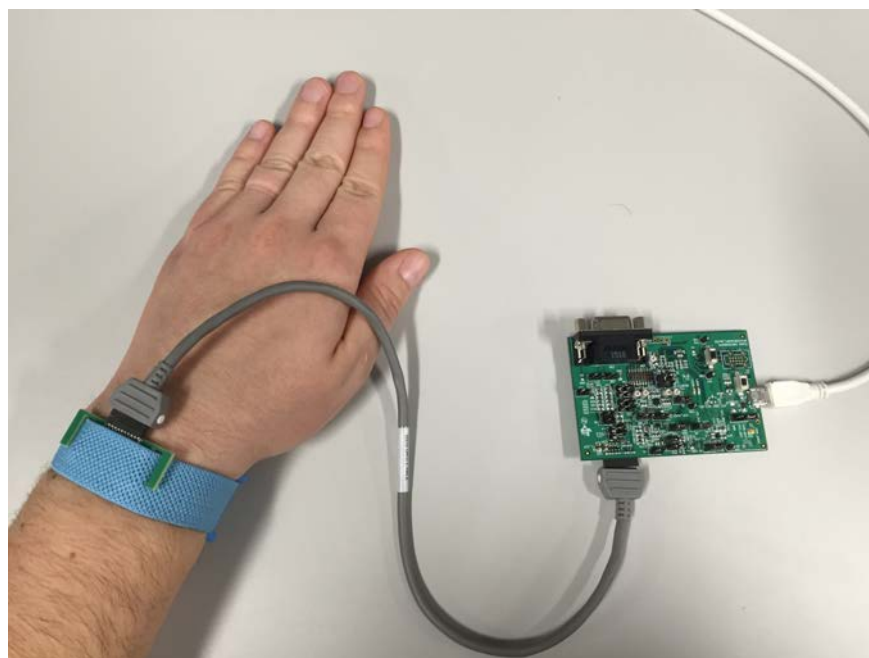

Figure 3. Setup for Obtaining Measurements From the Wrist
- (c) Place the sensor side of the sensor board on the wrist and tie it snugly. Figure 3 shows the sensor board being held with a velcro strap. Holding the sensor down with a finger is not recommended because a high level of motion noise is likely to occur due to small movements and changes in pressure.
NOTE: Figure 4 through Figure 7 help get to Figure 3.